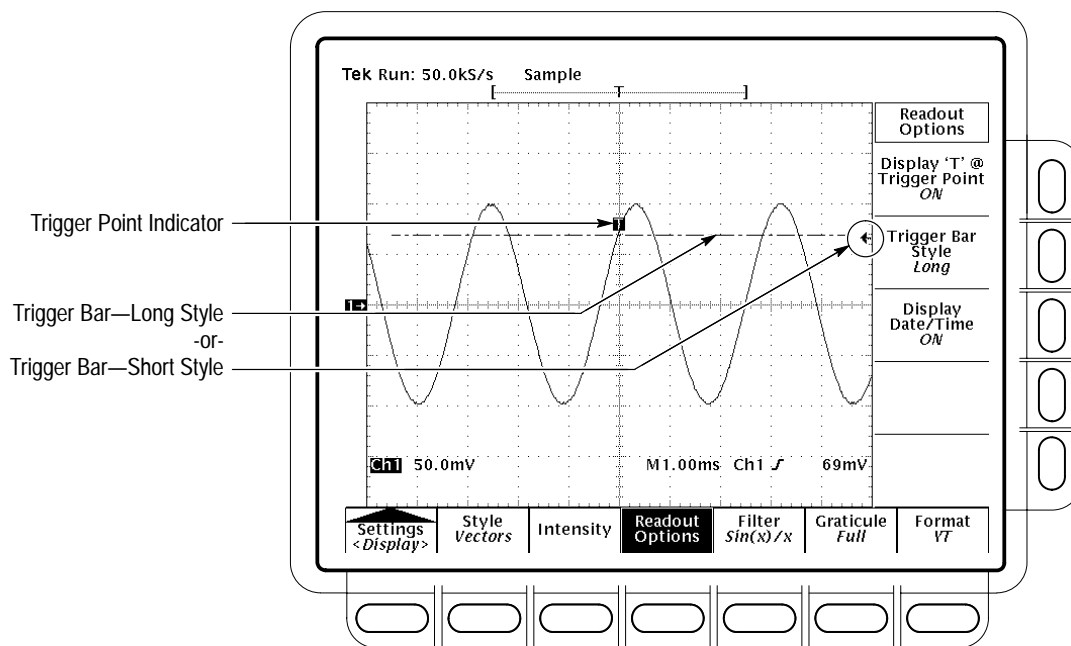

Figure 3–20: Trigger Point and Level Indicators
3. Press **Trigger Bar Style** (side) to select either the short or the long trigger bar or to turn the trigger bar off. (See Figure 3–20. Note that both styles are shown for illustrating purposes, but you can only display one style at a time.)